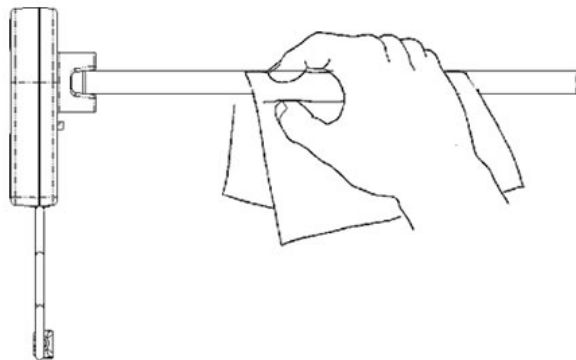

Figure 6 – Clean glass with soft cloth
4. Holding the lamp unit, wipe the lamp glass using a soft cloth dampened with glass cleaner. If you touch the lamp glass with your hands, be sure to clean the area of any oils left from bare hands. See Figure 6.